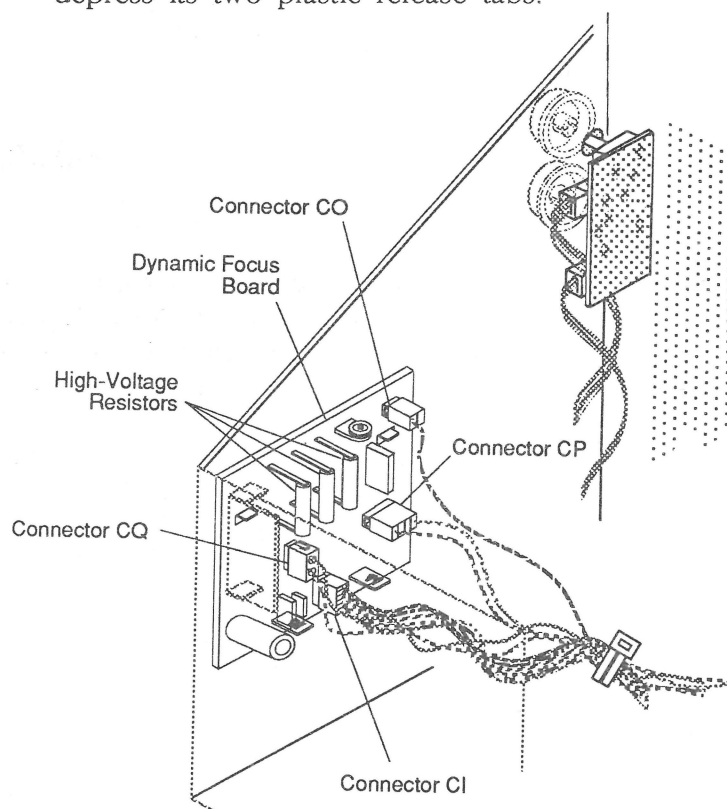

FIGURE 11
WARNING: When removing connectors from the dynamic focus board, be careful not to touch resistors R517, R518, or R520 (**Figure 11**). These are high-voltage resistors.
3. Disconnect the following connectors from the dynamic focus board (**Figure 11**):